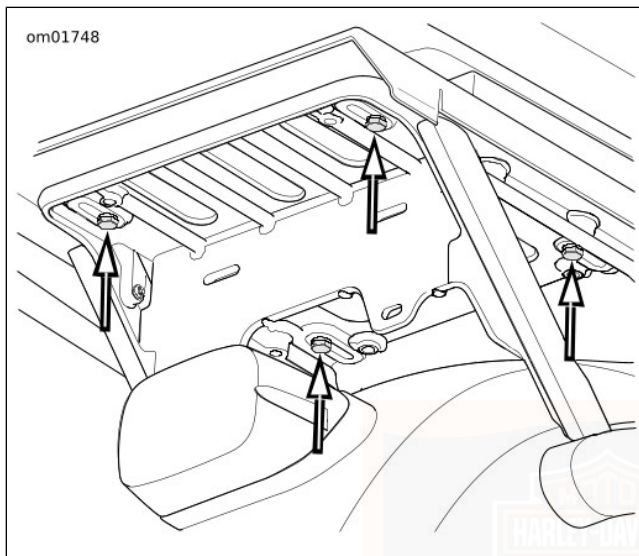

Figure 44. Tour-Pak Bracket Screws (APC Models)
1. See Figure 44. Remove the four screws securing the Tour-Pak bracket to the support.